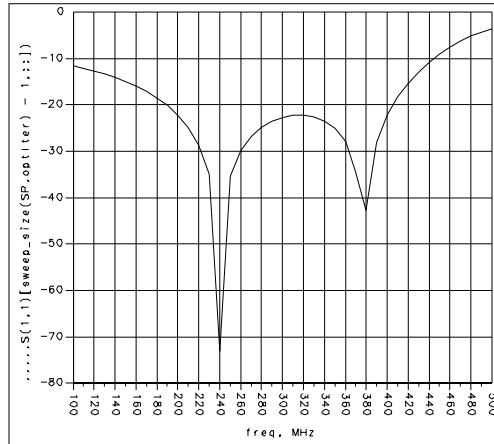

Figure 2-9. Results Using Minimax Optimizer
Figure 2-9 shows the results of selecting 100 iterations of the Minimax optimizer on this circuit. The optimizer terminated after 8 iterations.
8. Notice in Figure 2-9 that the values of the return loss at the band edges and at the band center are now equal: about 22.5 dB. This is the *equal-ripple* response, which is optimal for the design. Selecting *Simulate > Update Optimization Values* causes the design to be updated with the optimal design values in the Var/Eqn component, as shown in Figure 2-10.